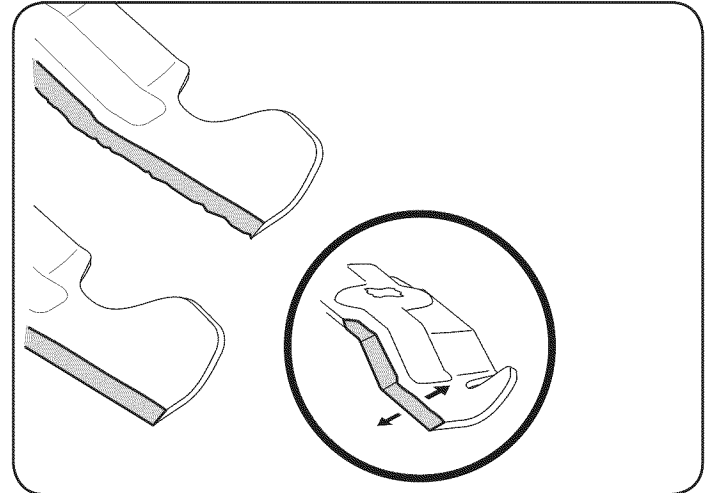

Figure 23
4. To properly sharpen the cutting blades, remove equal amounts of metal from both ends of the blades along the cutting edges, parallel to the trailing edge, at a 25°- to 30° angle. Always grind each cutting blade edge equally to maintain proper blade balance. See Figure 23.